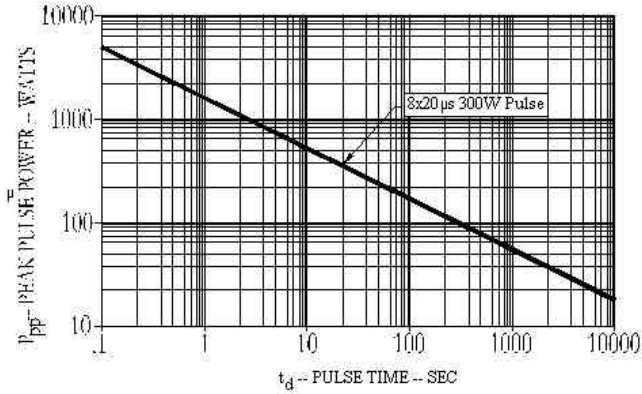

FIGURE 1
- Peak Pulse Power: 300 Watts (8/20 μsec, Figure 1)